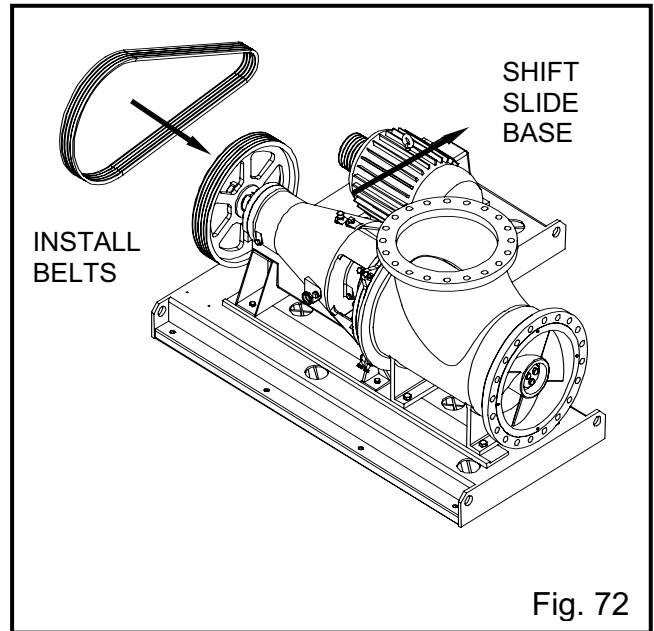
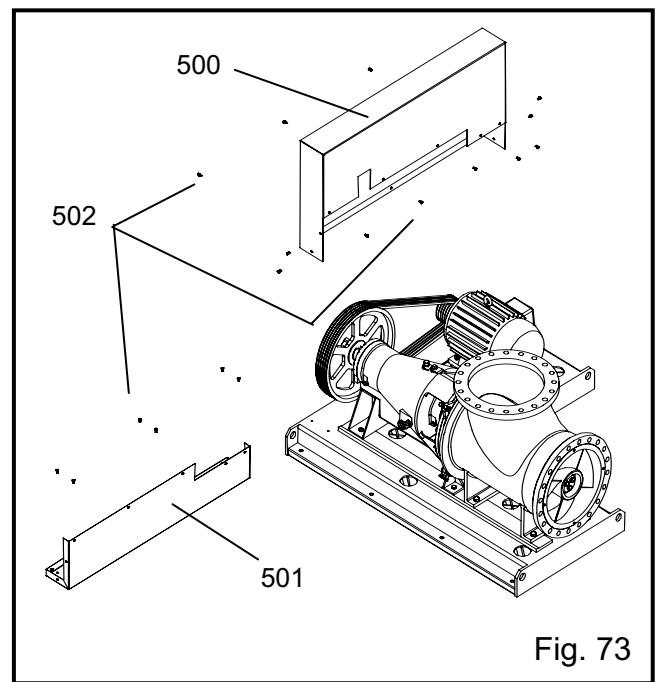

Fig. 72
Fig. 73
22. Install V-belts and re-apply tension by adjusting the slide base away from the pump. Adjust and check the tension per the drive manufacturers instructions, see Fig. 72.
23. Fasten the guard base (501) to the sub-base using
screws (502). Install the guard cover (500) using screws (502), see Fig. 73.